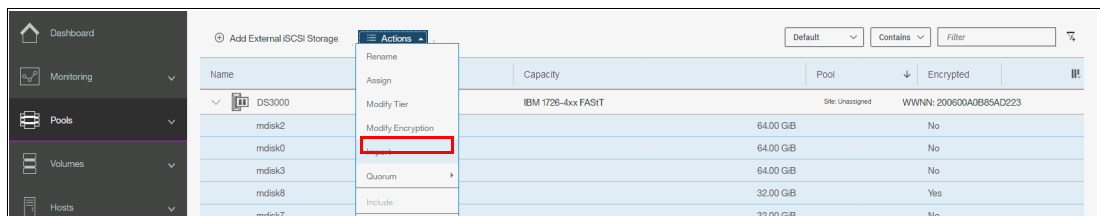

Figure 11-8 Import MDisk option
1. Select the unmanaged MDisk and click **Import** from the Actions drop-down menu (see Figure 11-8). Multiple MDisks can be selected by using the Ctrl key.